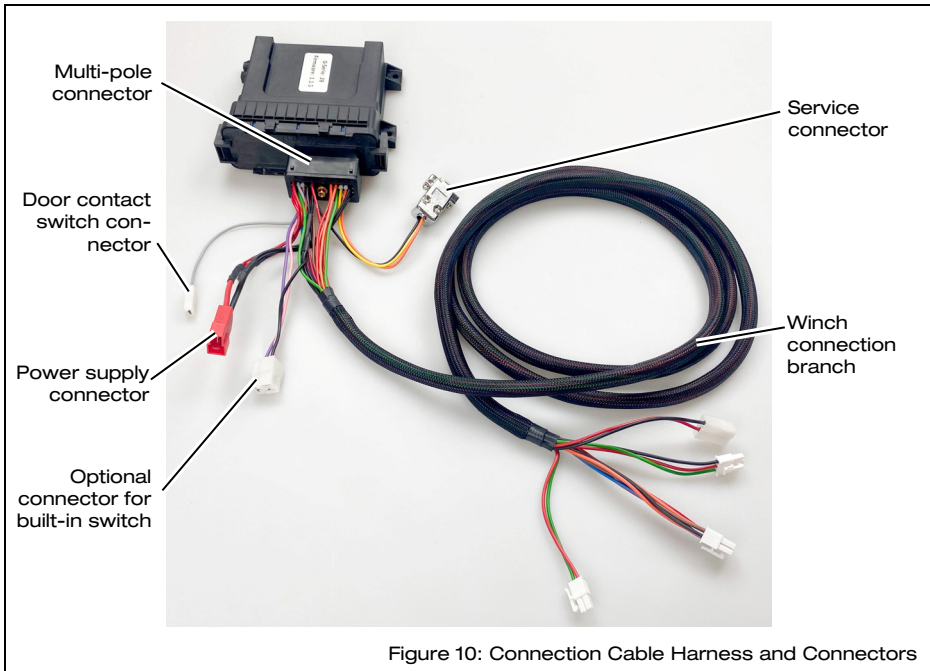

Figure 10: Connection Cable Harness and Connectors
- ⇒ Connect the black, multi-pole connector on the connection cable harness to the corresponding socket on the control unit (see Figure 10, page 36).
- ⇒ Connect the connectors from the battery and earth cables to the power supply connector on the connection cable harness (see Figure 10).
- ⇒ Connect the door contact switch cable to the single grey cable on the cable connection harness (see Figure 10, page 36).
The service connector on the cable harness allows the manufacturer access to the control unit (see Figure 10, page 36).
The optional connection on the cable harness allows the EasyPull 2.0 to be operated by a built-in switch (see Figure 10, page 36).